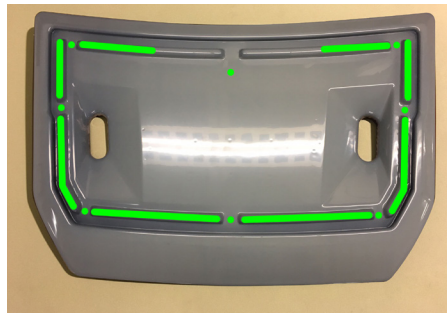

Figure 1
1. Prior to painting mask off areas indicated with painter's tape. (Figure 1) **NOTE: Masked off areas should not be visible when Hood Vent Cover is placed over Hood Vent Body.**